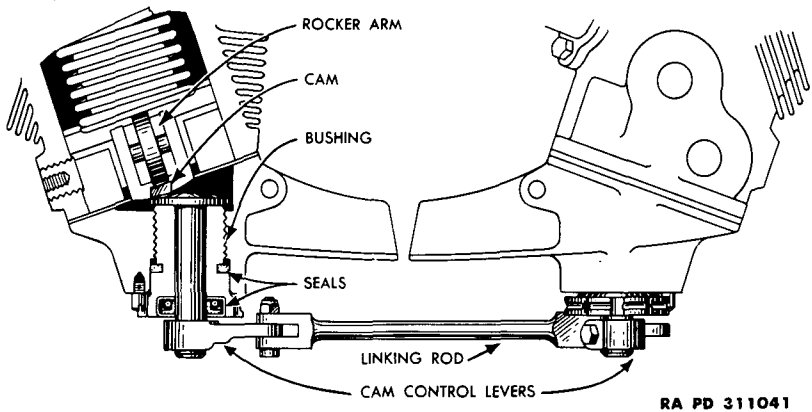

Figure 29 – Oil Drain Mechanism
- (1) **CLUTCH RELEASE SLEEVE.** Refer to paragraph 9 d (2) (c).
- (2) **CLUTCH SPINDLE.** Press bearing into spindle, using suitable drift. Pack bearing with ball and roller bearing grease. Drive oil seal into spindle bore.
a. **Disassembly** (fig. 29). Disconnect rocker box covers by removing link joining two levers of oil drain mechanism. Loosen cap screws holding lever on cam and lift levers from cam. Remove screw which locks bushing to cover and screw bushing assembly from rocker box cover. Remove key and lift bushing assembly from cam.